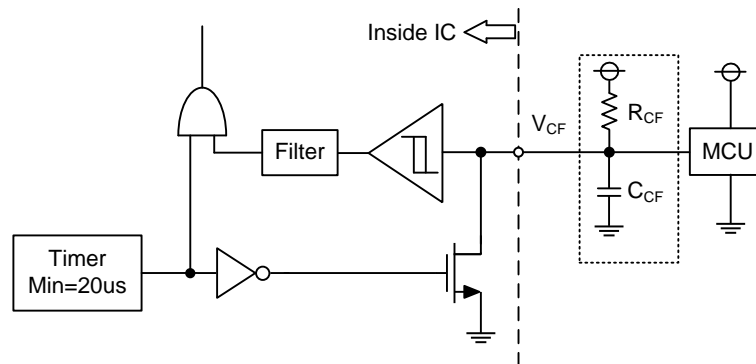

Figure 5. V_{CF} Output Circuit
- (1) If the control GND is connected with the power GND by common broad pattern, it may cause malfunction by power GND fluctuation. It is recommended to connect the control GND and power GND at a single point (N1), near the terminal of the shunt resistor.
- (2) There are two COM pins in the IPM but it is recommended to only use the (15) COM pin to minimize SC detection noise.
- (3) A zener diode D1 (24V/1W) is recommended between each pair of control supply pins to prevent surge destruction.
- (4) Prevention of surge destruction can further be improved by placing the bus capacitor as close to pin P and N1 as possible. Generally a 0.1-0.22μF snubber capacitor C3 between the P-N1 terminals is recommended.
- (5) Selection of the R1*C4 filter components for short-circuit protection is recommended to have tight tolerance, and is temperature-compensated type. The R1*C4 time constant should be set such that SC current is shut down within 2μs; (typically 1.5-2μs). R1 and C4 should be placed as close as possible to the C_{SC} pin. SC interrupting time may vary with layout patterns and components selection, therefore thorough evaluation in the system is necessary.
- (6) Tight tolerance and temperature-compensated components are also recommended when selecting the R2*C5 filter for V_{OT}. The R2*C5 time constant should be set such that V_{OT} is immune to noise. Recommended values of R2 and C5 are 2kΩ and 10nF.
- (7) To prevent malfunction, traces A, B, and C should be as short as possible.
- (8) It is recommended that all capacitors are mounted as close to the IPM as possible. (C1: electrolytic type with good temperature and frequency characteristics. C2: ceramic type with 0.1-2μF, good temperature, frequency and DC bias characteristics.)
- (9) Input drives are active-high. There is a minimum 3.5kΩ pull-down resistor in the input circuit of IC. To prevent malfunction, the layout to each input should be as short as possible. When using RC coupling circuit, make sure the input signal levels meet the required turn-on and turn-off threshold voltages.
- (10) V_{CF} output is open drain type. It should be pulled up to MCU or control power supply (max= 5±0.5V), limiting the current (I_{CF}) to no more than 1mA. I_{CF} is estimated roughly by the formula of control power supply voltage divided by the pull-up resistor R3. For example, if control supply is 5V, a 10kΩ (over 5kΩ) pull-up resistor R3 is recommended.
- (11) If only a pull-up resistor R3 of 10kΩ connected to V_{CF} pin, the fault output pulse width is fixed at minimum 20μs. If a capacitor C6 is connected with a pull-up resistor R3, the fault output pulse width can be controlled according to the resistor value and capacitor value. For the design guide, please refer to the Figure 5.
- (12) Direct drive of the IPM from the MCU is possible without having to use opto-coupler or isolation transformer.
- (13) The IPM may malfunction and erroneous operations may occur if high frequency noise is superimposed to the supply line. To avoid such problems, line ripple voltage is recommended to have $dV/dt \leq \pm 1V/\mu s$, and $V_{ripple} \leq 2V_{p-p}$.
- (14) It is not recommended to use the IPM to drive the same load in parallel with another IPM or inverter types.